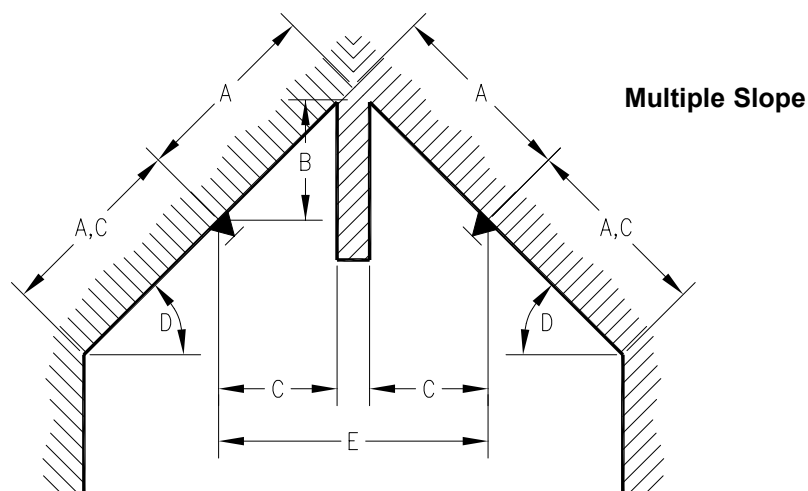

Figure 2
- (A) One-half listed spacing of sprinkler maximum, 0'-4" (0-102 mm) minimum.
- (B) Listed spacing of sprinkler, maximum, 8'-0" (2.4 m) minimum.
- (C) Where angle "C" is greater than an 8/12 (33.7°) pitch, see Figure 2 below.